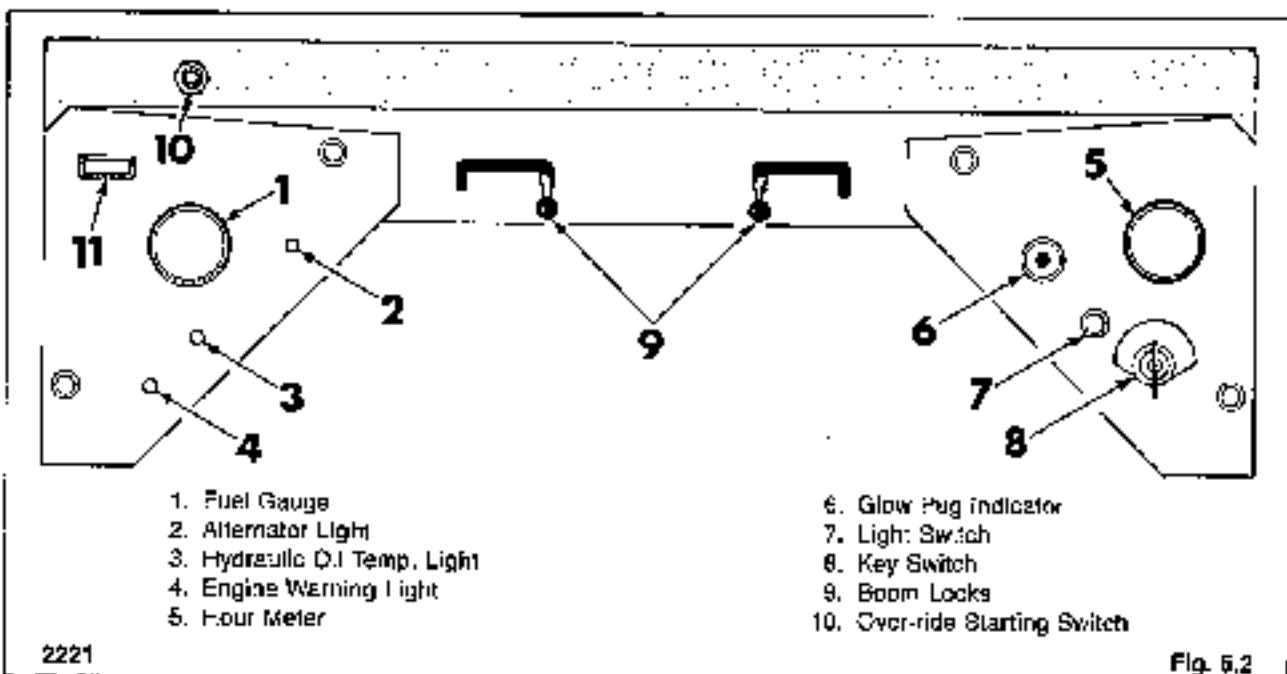

Fig. 5.2
The fuel gauge indicates the quantity of fuel in the fuel tank (Fig. 5.2). The fuel tank capacity is 16.8 gal. (64 L). The diesel engine must not be allowed to run out of fuel; otherwise air will have to be removed from the fuel (Refer to Section 7 — Engine).
The hydraulic oil temperature light (Fig. 5.2) measures the temperature of the hydraulic oil. The temperature sender is located at the hydraulic reservoir (Fig. 5.2.3). If the hydraulic oil temperature light comes on during operation shut off the engine and determine the cause of over heating. Check the radiator and hydraulic oil cooler for air flow restriction first before checking for a malfunction of the sender. Refer to section 1.8 and 2.4 for trouble shooting of the hydraulic and hydrostatic systems.
The engine warning light serves the dual function of monitoring both the engine oil pressure and engine coolant temperature (Fig. 5.2 item 4).
The hour meter records the number of engine operating hours and has a total read out of 9999.9 hours (Fig. 5.2 item 5). The meter winds approximately every 12 seconds and will run a short time after the ignition has been shut off.
flows through the glow plug heating element. The heat generated by the glow plug element pre-heats the air in the cylinder making it easier for the fuel injected into the cylinder to vaporize and ignite. An indicator on the instrument panel, Fig. 5.2, will glow red when the air in the cylinder has heated to the correct temperature.